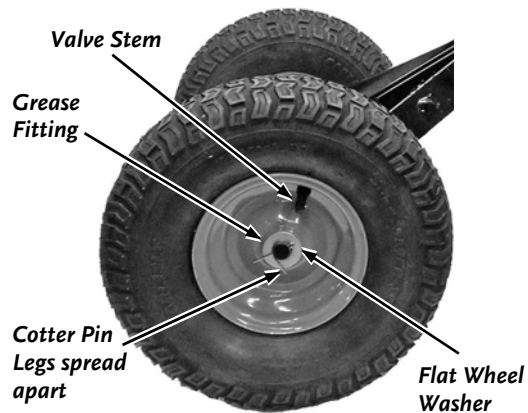

Figure 9
10. Slide a Wheel onto each Axle making sure that the Wheel Valve Stem is to the outside (**Figure 9**).
11. From the Hardware Bag, place one (1) Flat Wheel Washer on each Axle, slide a Cotter Pin through the Hole in the Axle on each side, and spread the Cotter Pin Legs using Pliers.